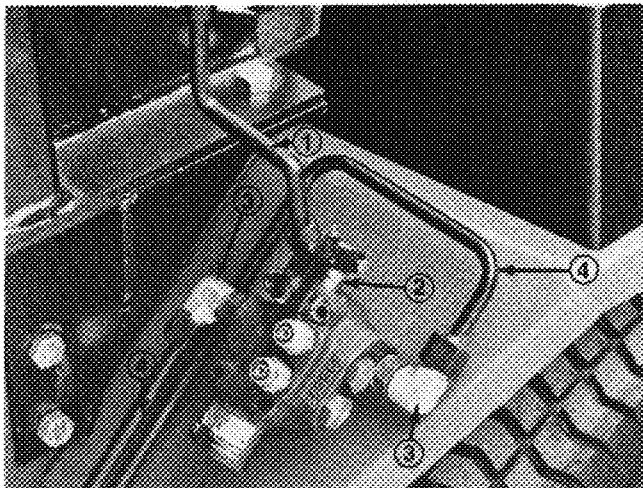

Figure 2
6. With valve positioned on right fender, use it as a template to locate, mark and drill (3) 17/64" dia. holes in right fender (Fig. 2). Tube assembly must be at least 1-3/4" from frame.
7. Secure valve assembly and pivot lever to fender with (3) 1/4 - 20 x 2-3/4" lg. capscrews and 1/4 - 20 flange locknuts (Fig. 2). Tighten tube assemblies to valve.
9. Mount control valve handle to valve spool with a clevis pin and cotter pin. Mount pivot lever to handle with a roll pin (Fig. 2).